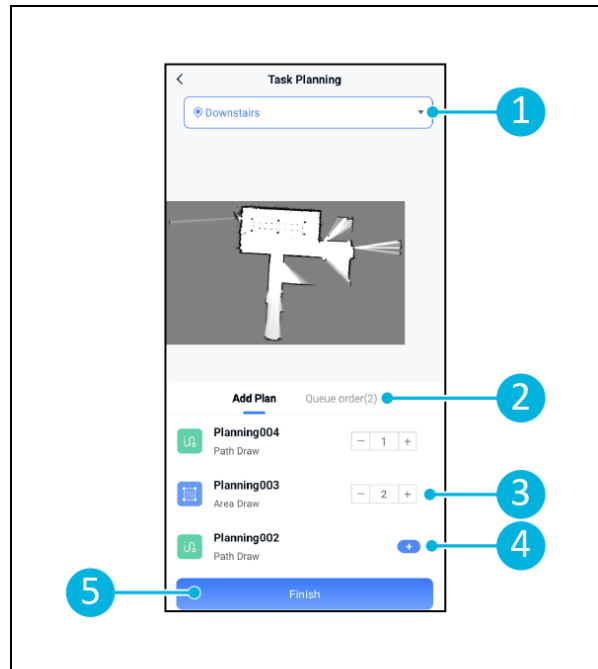

Figure 26
5. Select the map in which you wish to create the task (Figure 26, pos. 1).
6. Add the plans (Figure 26, pos. 4) that the co-botic 45 will include in the cleaning task and how many times (Figure 26, pos. 1) the plans are executed.
7. Select [\[Queue order\]](#) (Figure 26, pos. 2) to change the order in which the plans are executed within the task.
8. Select [\[Finish\]](#) (Figure 26, pos. 5) when the task is fully configured.